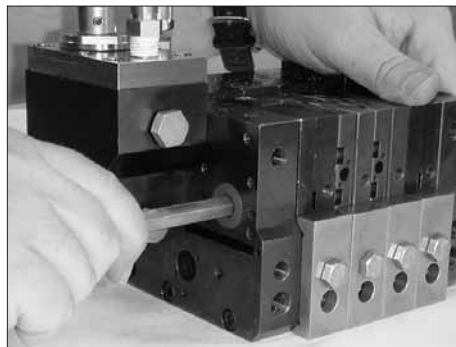

Figure 7-76 Installing the pump shaft
6. See Figure 7-76. Install the pump shaft by slightly rotating it in both directions while also pushing to align the pumps. The shaft is completely installed when the shaft end is flush with the end slice.